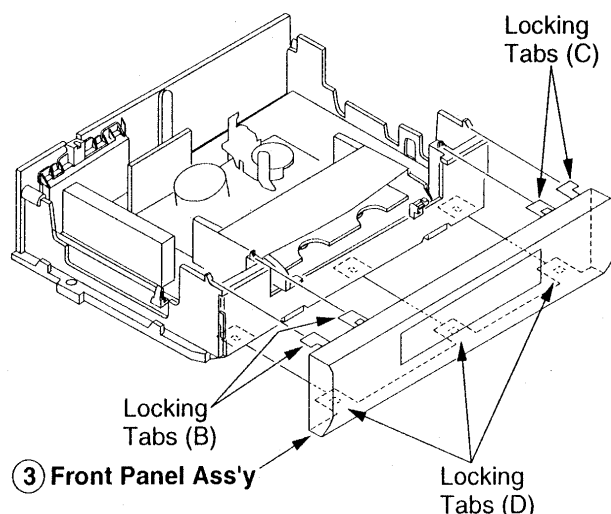
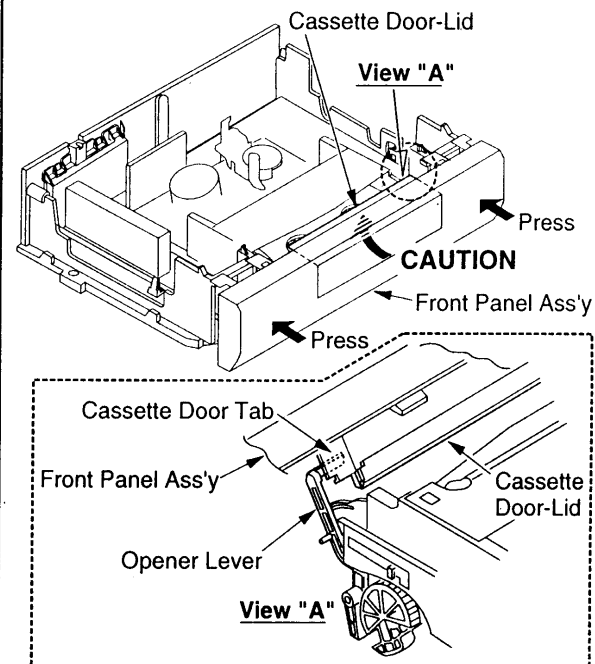

Fig. 5 - Front Panel Assembly Removal
Fig. 6 - Front Panel Assembly Removal
**Front Panel Assembly Removal (Figs. 5, 6)**
2. Release two (2) locking tabs (B) on the top left (Fig. 5).
3. Release two (2) locking tabs (C) on the top right.
4. Release three (3) locking tabs (D) on the bottom side of the front panel.
**Note:** When removing the front panel, take care not to break the tabs. When reassembling, refer to Fig. 6.